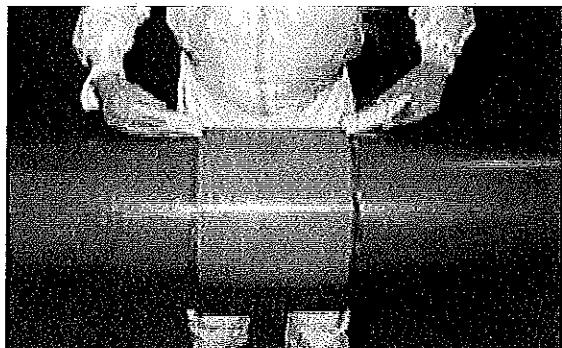

Figure 14
- 4.13 Carefully position the remaining portion of the Clock Spring® around the pipe and assist the "memory matrix" to tighten the sleeve onto the pipe. Align the edges of the installed sleeve using the wooden blocks and a hammer (Figure 14).